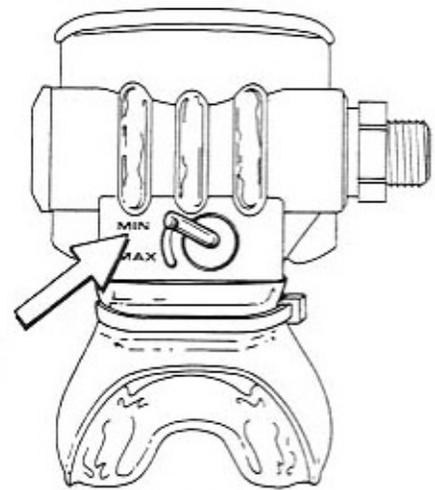

Figure 13
1. Place the vane adjustment switch (item 2) in the "MIN" position (see figure 13). Next, with the regulator attached to the flow bench, slowly pressurize the regulator to 3000 ± 100 psig. The intermediate pressure gauge should indicate a "lockup" pressure of 140 ± 5 psig.
3. Once the intermediate pressure lockup is 155 psig (160 psig for octopus), depress the purge cover. While purging the regulator, adjust the crown orifice (item 8) by compressing the adjustment tool knob to engage the screwdriver slot of the crown, then turn the adjustment knob of the in-line adjustment tool counterclockwise $1/4$ turn. Next, release the purge cover and check for a slight leak from the second-stage. If no leak is detected, repeat adjustment, $1/4$ turn at a time, until a leak begins. Once you have a slight leak, purge the regulator and turn the in-line adjustment tool clockwise just until the leak stops.
4. With an $1/8$ -inch screwdriver, loosen the adjustment screw (item 14) by turning the screwdriver counterclockwise until there is just barely a leak. Next, turn the adjustment screw clockwise until the leak stops.